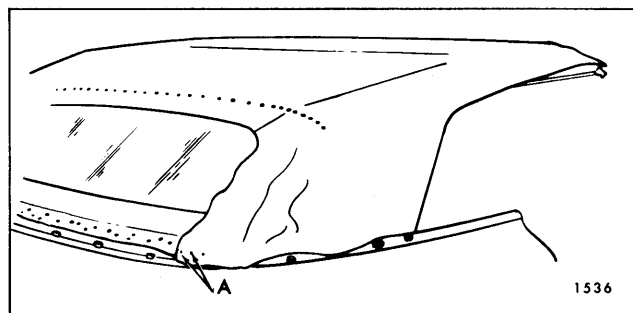

Fig. 13-22—Tacking Top Material
36. Using previously marked lines (ends of trim stick) as locating reference, tack top material to rear and rear quarter trim sticks. "A" in Figure 13-22 shows top material installed to rear trim stick at inboard edge.